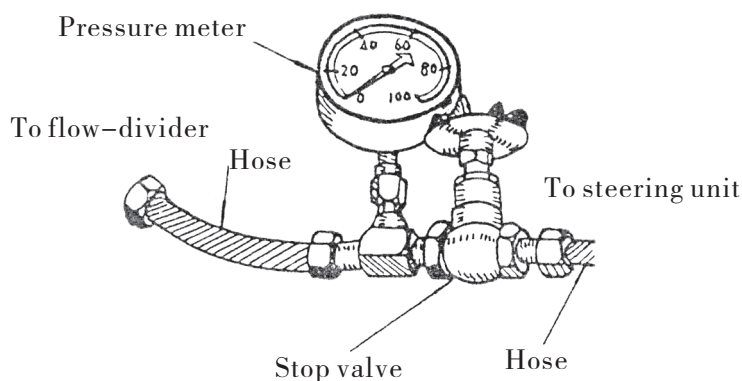
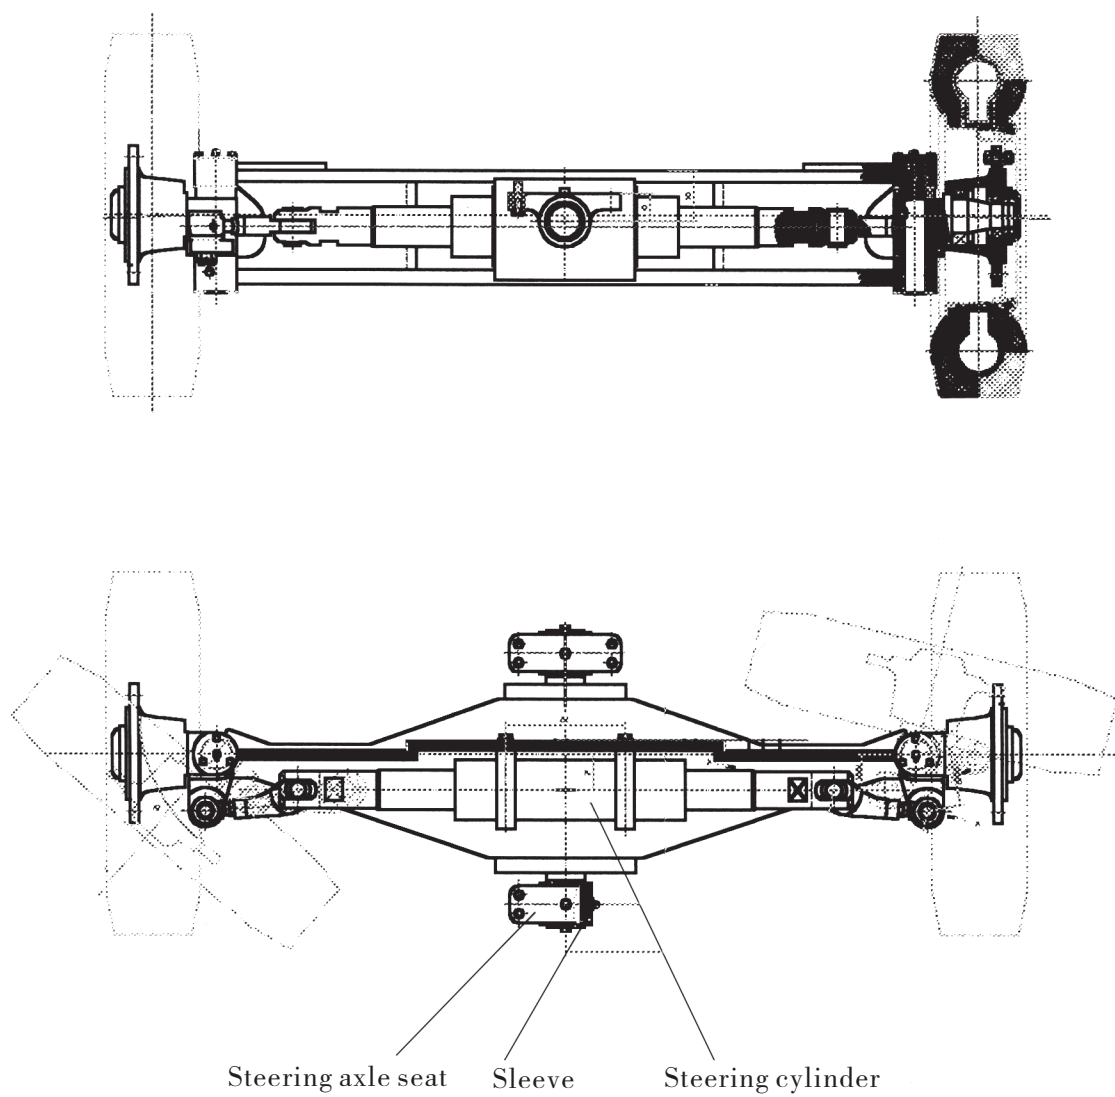

Fig.6.3 Measure pressure
Fig.6.4 Steering axle
(5) To measure hydraulic pressure, use the pressure gauge (15–20MPa), stop valve and hoses connected as shown in fig. 6.3.
5–10t forklift entirely adopts transverse steering oil cylinder. The front and rear of the center are supported by two supporting axle through sleeve on the steering axle base, the later is fixed on the forklift frame. The two supporting axle can sway a certain angle to the right and left. The structures of steering axle of 5–10t forklifts are the same in the most parts and the main structure is presented in the Fig. 6.3 and Fig. 6.4.